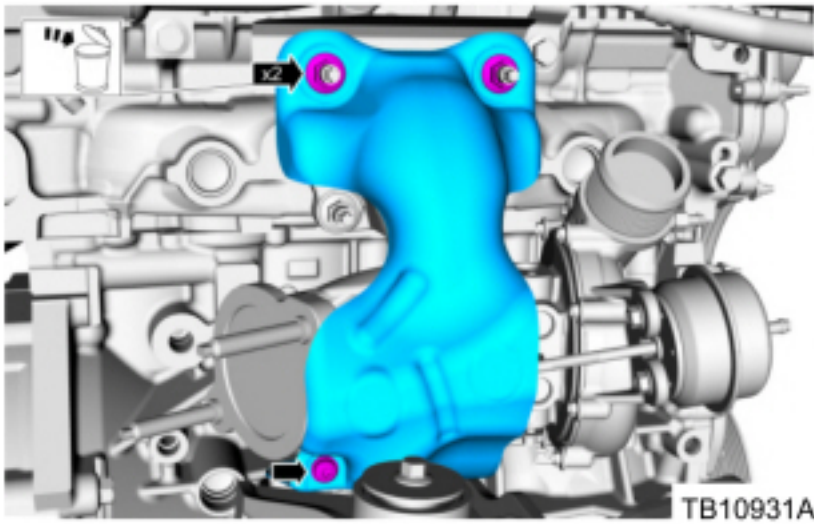

Figure 2 - 16-0121
- Remove and discard the upper turbocharger mounting nuts. (Figure 2)
- Remove the lower turbocharger heat shield retaining bolt. (Figure 2)
- Position the turbocharger heat shield aside. (Figure 2)